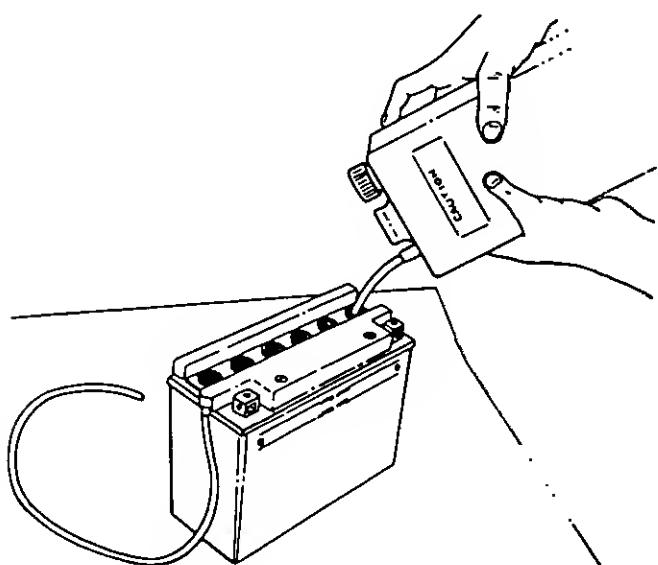

FIGURE 3.
5. Fill each battery cell slowly and carefully to the **UPPER LEVEL** line marked on battery. See figure 3. Use caution as the acid level will rise rapidly after the bottom of the cell is filled.